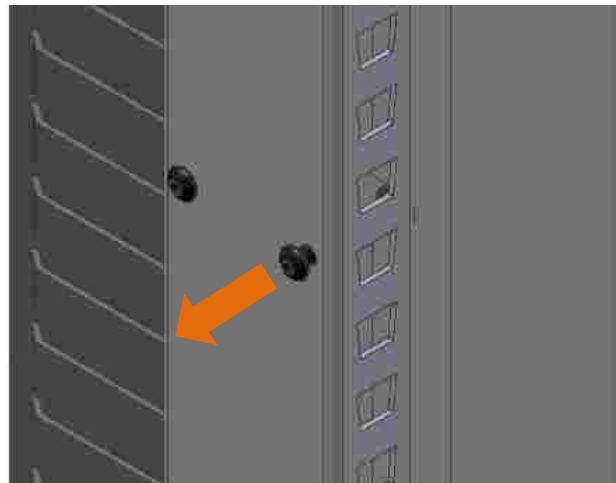

Fig 2
- In the single **grooved end bar** of the **frames**, loosen one row of **M6x45 ISO7380 Allen screws** (Fig.2).